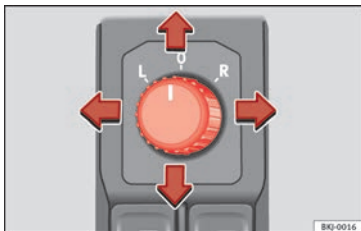

Fig. 150 Exterior mirror controls.
1. Turn knob »» Fig. 150 to position **L** (left exterior mirror).
- Turn the control »» Fig. 150 to position to fold in the exterior mirrors. You should always fold in the exterior mirrors if you are driving through an automatic car wash. This will help prevent damage.